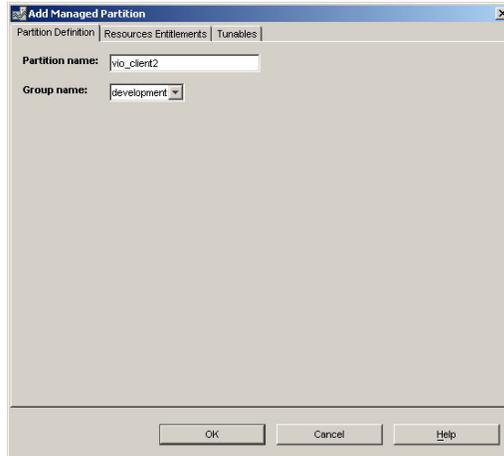

Figure 6-12 PLM wizard add managed partition window
7. Having defined the group, we must now specify which partitions are included in the group. To do this task, click the **Partitions** tab in the Create Policy File window and then the **Add** button of the pop-up window, as shown in Figure 6-12 on page 401.